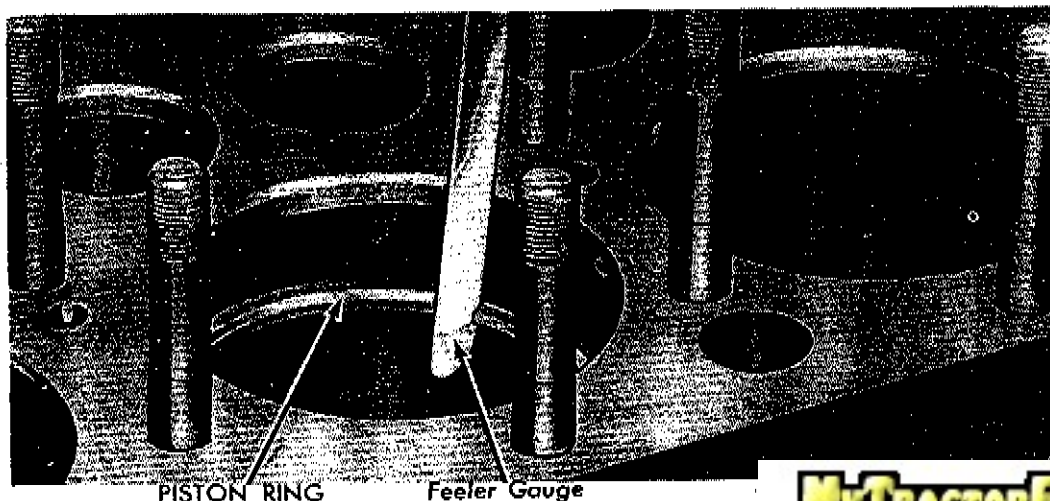
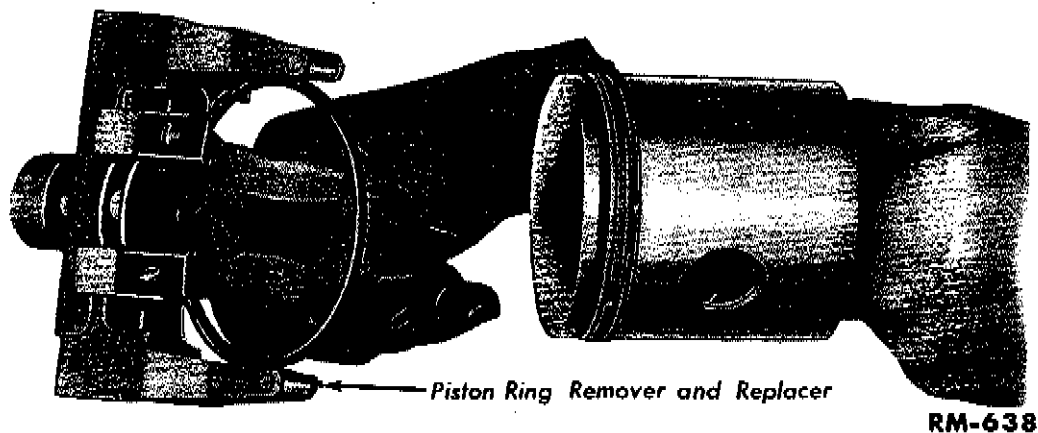

Fig. 23—Measuring Piston Ring End
Fig. 24—Installing Piston Ring on Piston
d. Assemble Piston, Piston Pin, and Connecting Rod. Install the piston which was previously fitted (par. a (1) (a) above) for the particular cylinder to the connecting rod previously selected and having the number of that cylinder. Hold the piston in place on the connecting rod. Install a piston pin in the piston and connecting rod, and install a piston pin retainer in each piston pin bore groove.
e. Fitting and Installing Piston Rings. Place a new piston ring in the cylinder, and press it about half-way down into the cylinder bore with the bottom of a piston so the ring will be square with the cylinder wall. Measure the ring end gap with a thickness gauge (fig. 23). If the gap is less than 0.012 inch, remove the ring. Place the ring in a jig, and file it with a fine cut file until the correct gap (0.012 to 0.017 inch) is established. If the gap exceeds 0.035 inch, an oversize ring must be used. Roll the new piston ring around its groove in the piston. The top ring should roll freely and not have a clearance of less than 0.0015 inch or more than 0.0035 inch. The lower rings should roll freely and not have a clearance of less than 0.001 inch or more than 0.004 inch. Install the piston ring on the pistons with a piston ring expander (fig. 24). Repeat the entire above procedure for each piston ring